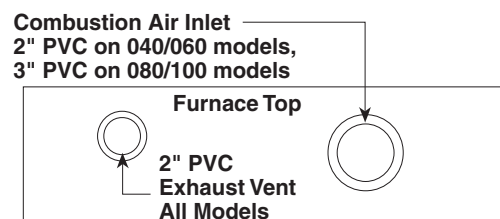

Figure 18. Furnace Pipe Adaptions
Figure 18 illustrates vent and combustion air pipe sizes exiting the furnace. Transition to the correct pipe size must be done close to the furnace so that the full length of pipe is of proper size.
1. The termination must be 12 inches above snow level or grade level whichever is higher. See Figure 18 for alternate method to achieve 12" above snow level.